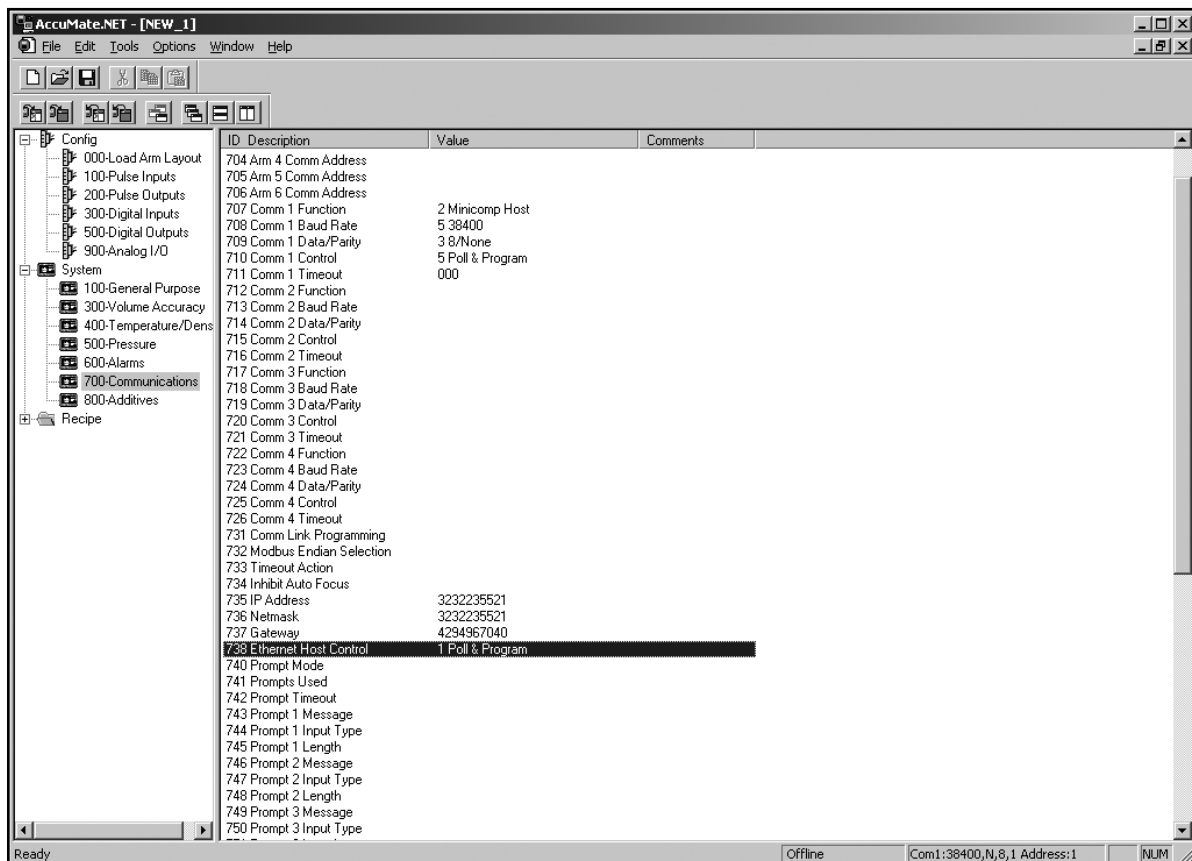

Figure 2
3. A display similar to that shown below will appear on the computer screen. Communication configuration program codes are in the "700" System Communications group, as shown in Figure 2 below.